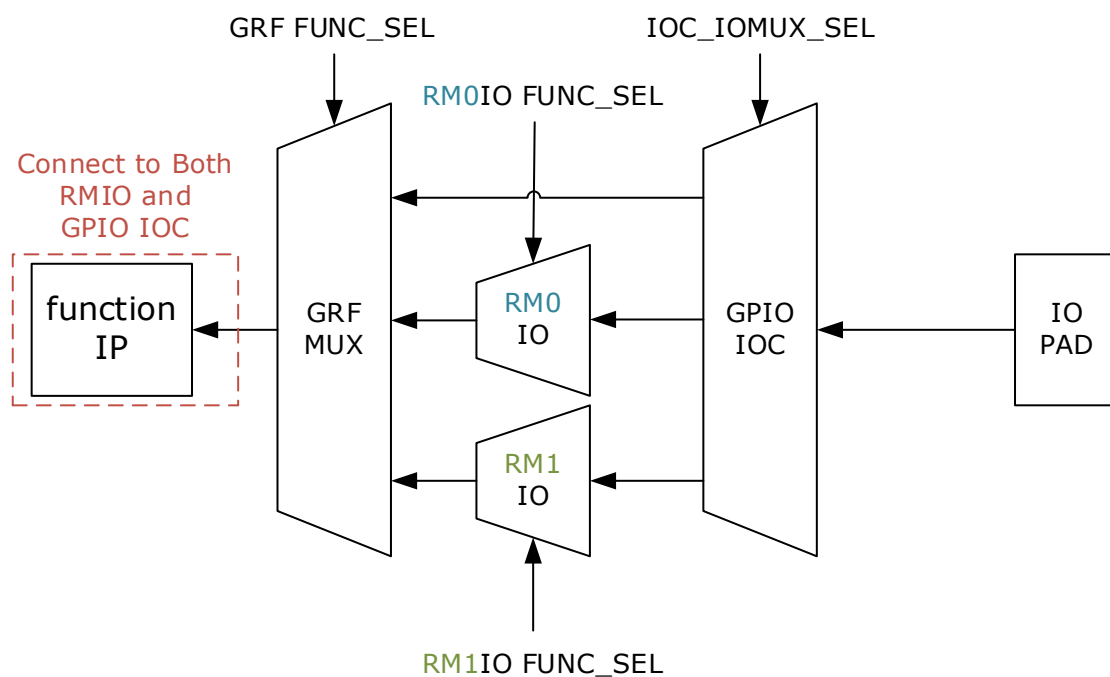

Figure 23-3 IP which has multiple paths connecting to the I/O PAD
3) As shown in the Figure 23-3, the IP can be connected to the IO PAD only through IOC, or through RMIO+IOC. In addition, this IP can be connected to the IO PAD via different RMIOs (for example, RM0 and RM1). In this case, you need to configure GRF_FUNC_SEL, RMIO_FUNC_SEL, and IOC_IOMUX_SEL to select one of the paths.